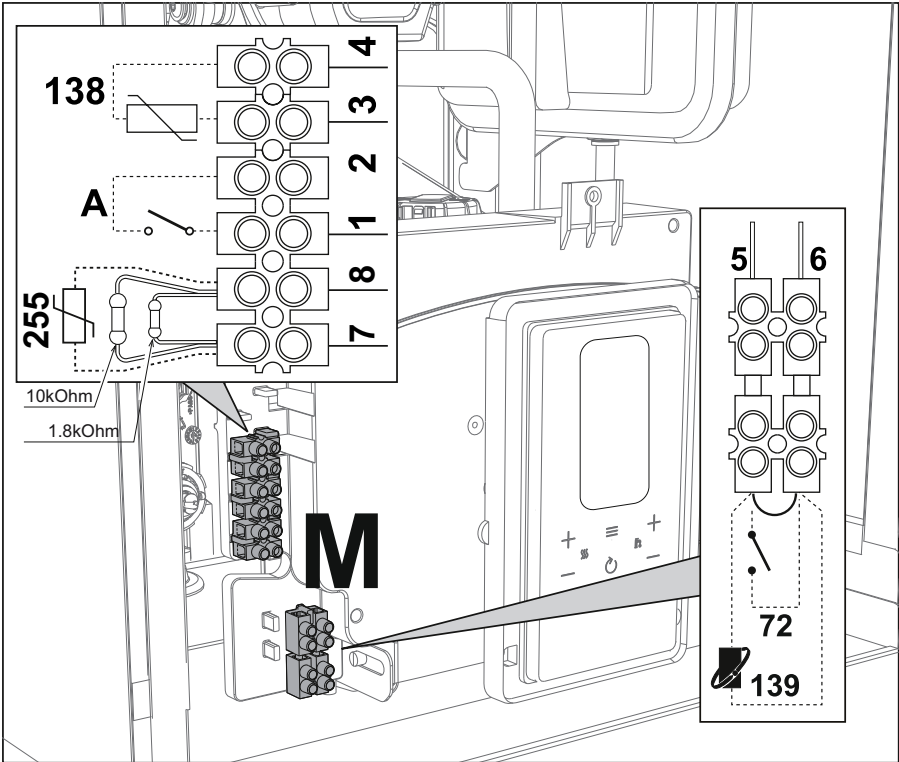
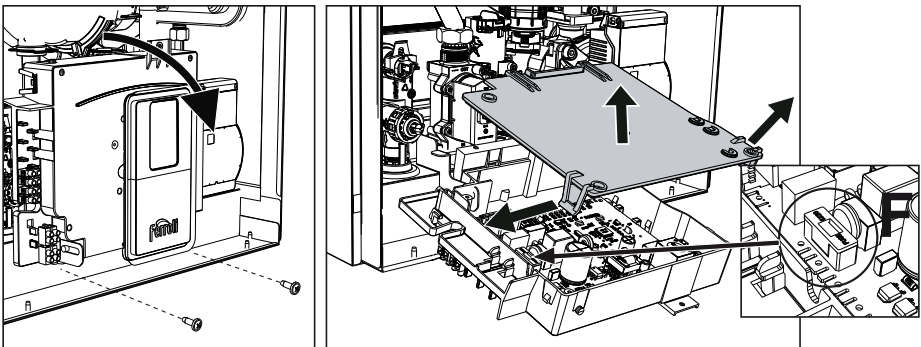

fig. 29
fig. 30
After removing the front panel (*** 'Opening the front panel' on page 337 ***) it is possible to access the terminal blocks (M) and the fuse (F) following the directions given below (fig. 29 and fig. 30). **The terminals indicated in fig. 29 must be with voltage-free contacts (not 230V).** The arrangement of the terminals for the various connections is also given in the wiring diagram in fig. 66.
ON/OFF switch configuration (A fig. 29)